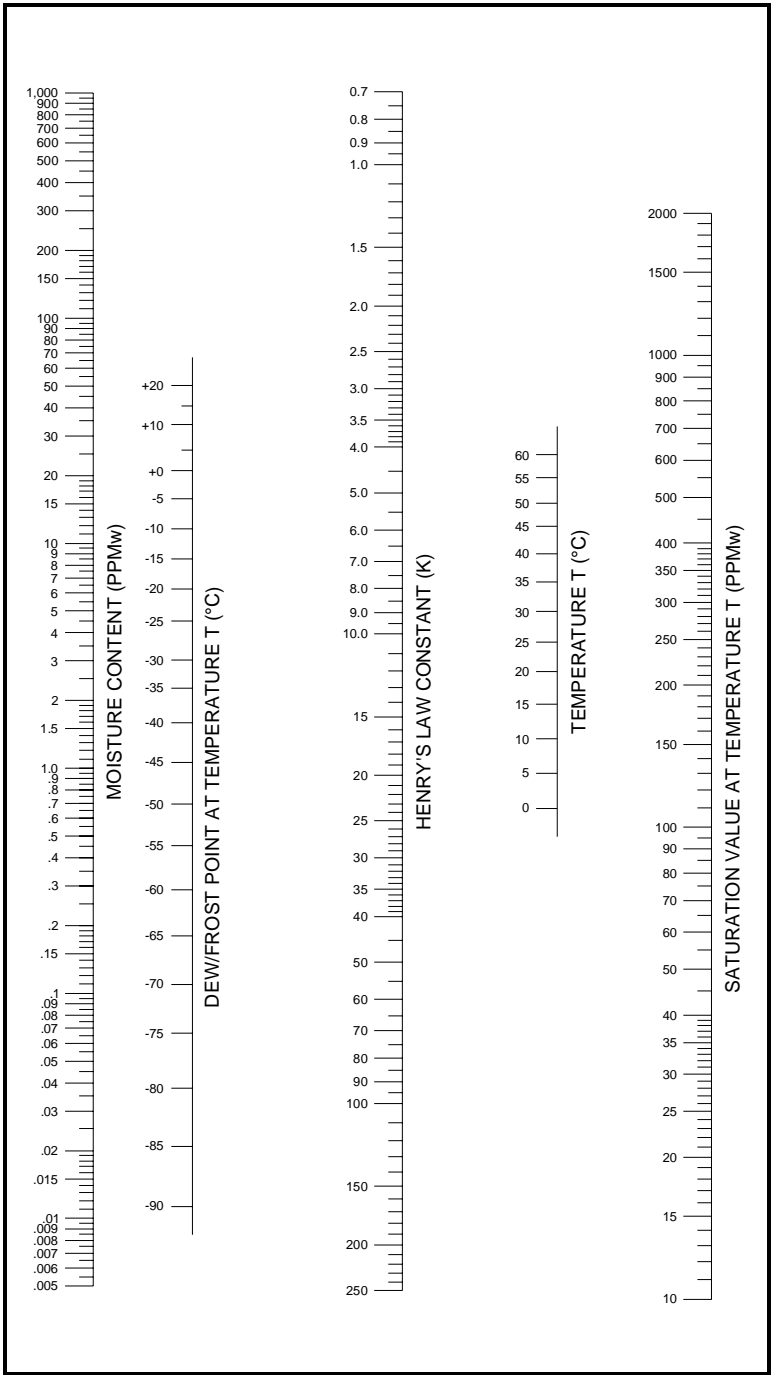

Figure A-2: Moisture Content Nomograph for Liquids
The nomograph for liquids in Figure A-2 can be used to determine the moisture content in an organic liquid, if the following values are known:
If the values of K and C_S are not known, the GE Panametrics hygrometer can be used to determine these values. In fact, only one of the values is required to determine PPM_W from the nomograph in Figure A-2. To perform such an analysis, proceed as follows:
As mentioned earlier, saturated straight-chain hydrocarbons represent a special case, where the Henry's Law constant does not vary appreciably with temperature. In such cases, use the nomograph for liquids in Figure A-2 to complete the analysis.
- b. Using a straightedge on Figure A-2, connect the 870 PPM_W saturation concentration with the 30°C ambient temperature and read the Henry's Law Constant of **27.4** on the center scale.
- b. Using a straightedge on Figure A-2, connect the 480 PPM_W saturation concentration with the 50°C ambient temperature and read the Henry's Law Constant of **5.2** on the center scale.
- b. Using a straightedge on Figure A-2, connect the 101 PPM_W saturation concentration with the 20°C ambient temperature and read the Henry's Law Constant of **5.75** on the center scale.
- d. Using a straightedge on the nomograph in Figure A-2, connect the known 10 PPM_W moisture content with the measured dew point of -10°C , and read a K value of **5.1** on the center scale.